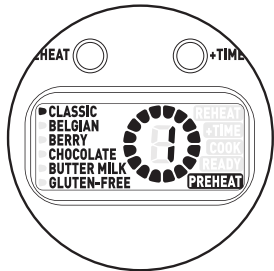

Fig. 6
2. Turn on the unit by RECIPES SELECTOR to desired recipe with desired SHADE level selected by turning SHADE SELECTOR (Setting 1 will result in the lightest waffle; setting 7 the darkest). Pre-heat the waffle maker will start automatically once settings are confirmed (Fig. 6)